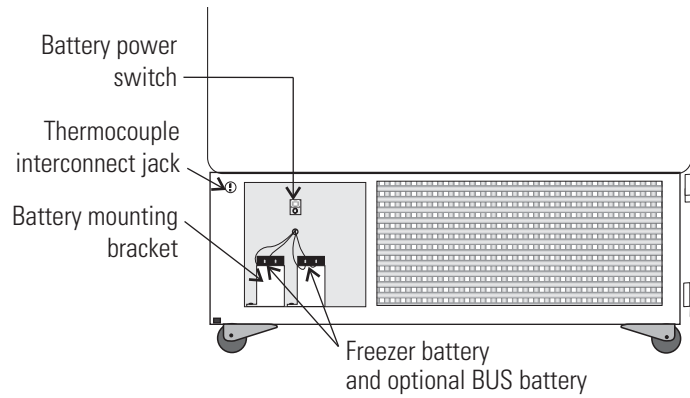

Figure 5-2. Battery Location
1. To gain access to the battery, open the lower door by grasping the bottom left corner. The battery is rectangular in shape, located on the front left corner of the compressor compartment and is secured in place by a mounting bracket with three bolts. See Figure 5-2.